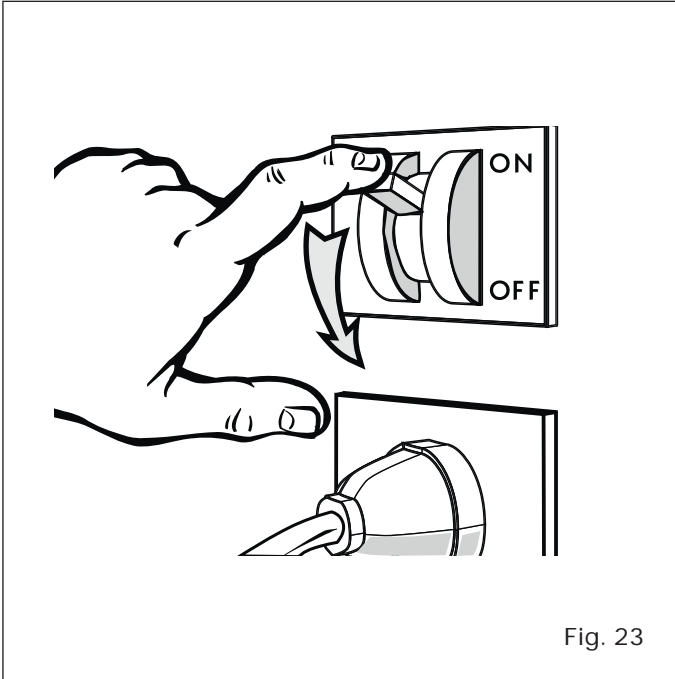

Fig. 23
- Disconnect the power supply to the cabinet using the wall-mounted main switch-disconnector ("Fig. 23").